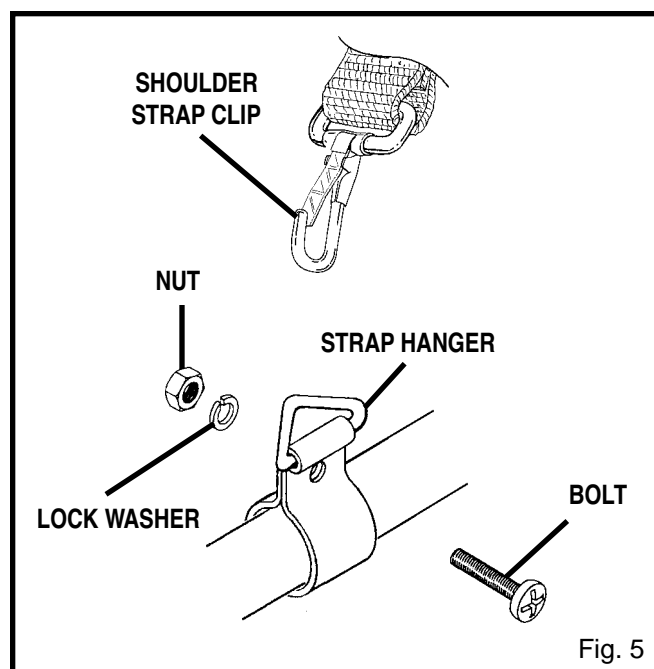

Fig. 5
- Install bolt, lock washer, and nut. Tighten nut securely. See Figure 5.